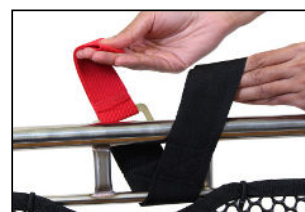

Figure 7, Passing Looped End Through Cove
- Starting outside the Rescue Litter, pass the looped end of the strap inward between the Rescue Litter rail and the netting at a chosen attachment point. (Fig. 7)